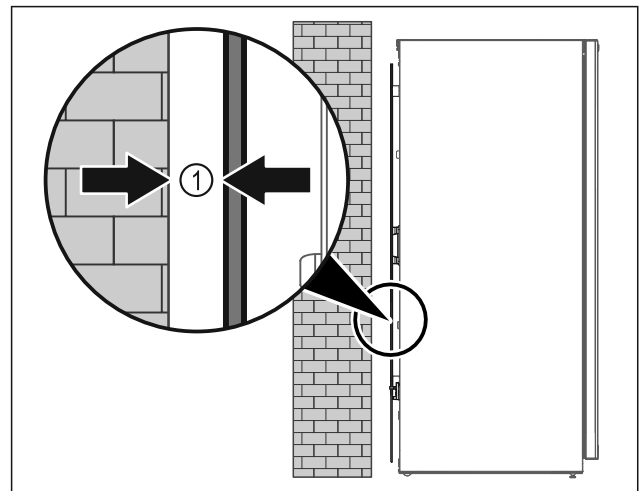

Fig. 45
- ▶ Set up the appliance either free-standing or directly against a wall at a minimum distance of 5 mm Fig. 45 (1).